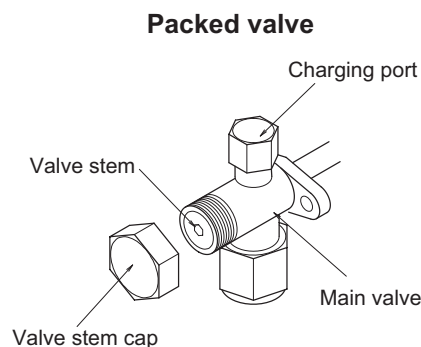

Fig. 1-33
- If the packed valve is left for a long time with the valve stem cap removed, refrigerant will leak from the valve. Therefore, do not leave the valve stem cap removed. (Fig. 1-33)